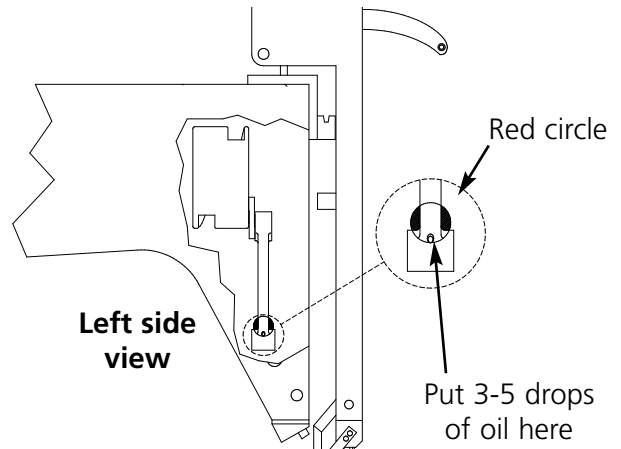

Figure 4-11
3. When **lower connecting rod** displays, press . This moves the needle case to its proper position for oiling (needle 10, 150° of z axis). Refer to Figure 4-11 to lubricate the lower connecting rod. Use a flashlight if needed. Press  when done.